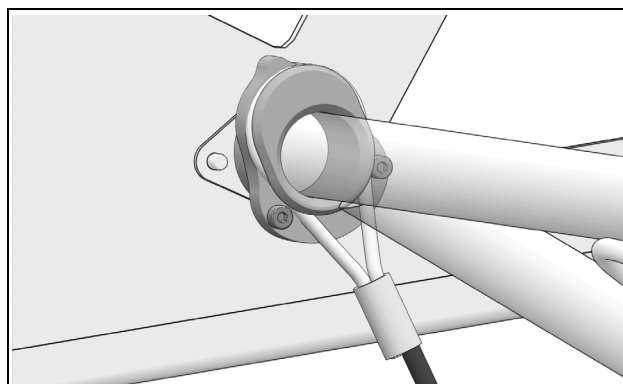

Figure 21
- **Short position:** powder snow conditions. Figure 21.